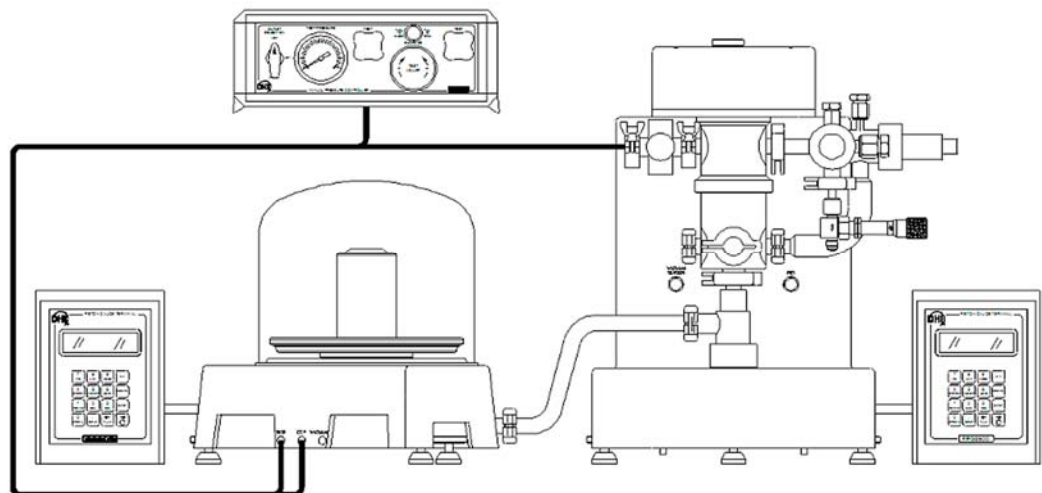

Figure 63. FPG8601 and PG7000 Cross Float Setup
- ❶ Set up the piston gauge and the FPG for operation in gauge mode. Make sure that the FPG has an isolation valve connected to the test port on the upper left side of the mounting post.
- ❷ Using FPG Tools, create a DUT that is the reference piston gauge and activate it (see Section 5.5). If a **DHI** PG7000 is the reference piston gauge, remote operation is recommended. Use the **[Run w/Point Log]** menu choice to enable data acquisition. It is important that the FPG pressure is averaged at each test point. Select kPa as the pressure unit to simplify the effective area calculations.
- ❸ Obtain a static pressure controller (ex. MPC1) that will allow generation of pressures up to 15kPa.
- ❹ It is important that a common atmospheric reference is used between the piston gauge and the FPG. Connect the atmospheric reference of the piston gauge to the lower mounting post of the FPG. In Figure 63 the PG is connected to the output of valve 9. This connection is used for convenience only. The output of valve 9 is a KF25 fitting so an adaptor is not necessary.
- ❺ Connect a low flow metering valve to the FPG manifold control isolation port as indicated in the diagram. Adjust the metering valve approximately 1/4 turn from fully closed. The valve is used to compensate for the lubrication flow of the FPG at each test pressure. Without the metering valve, the lubrication flow will increase the FPG pressure relative to the piston gauge and cause the piston gauge piston to continually rise.